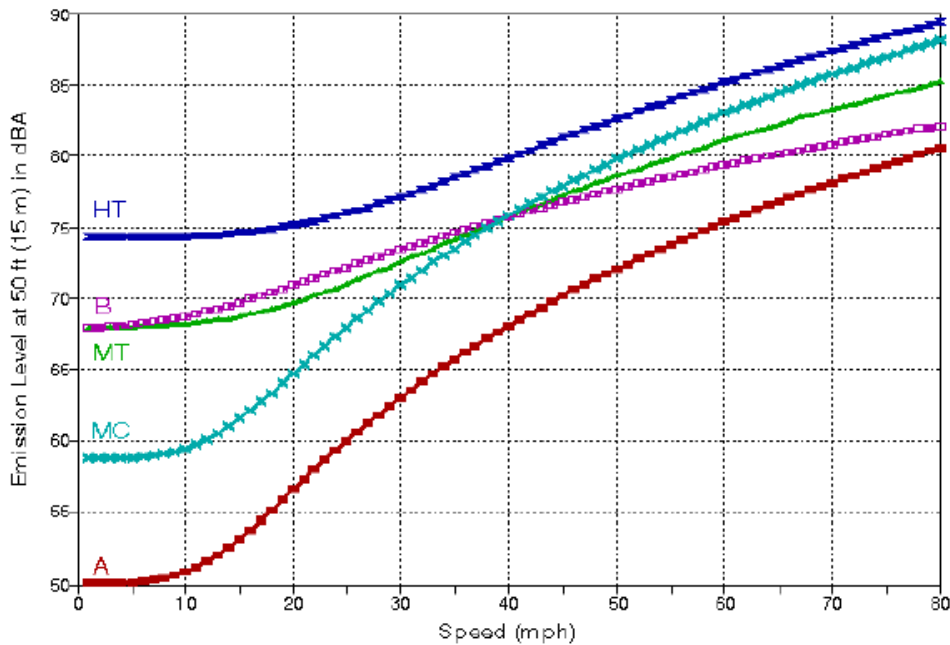

Figure 76. Emission level comparison.
form of the regression equations differs from that used by STAMINA 2.0/OPTIMA in that it contains not only a "tire/pavement noise" component that increases with vehicle speed (similar to STAMINA 2.0/OPTIMA), but also an "engine/exhaust noise" component that is independent of vehicle speed. Baseline regression equations were developed for automobiles (A), medium trucks (MT), heavy trucks (HT), buses (B), and motorcycles (MC). The resultant curves are presented in Figure 76. Baseline conditions refer to dense-graded asphaltic concrete (DGAC) and Portland cement concrete (PCC) pavements combined (referred to as "Average" pavement in this User's Guide), level-graded roadways, and constant-flow traffic.